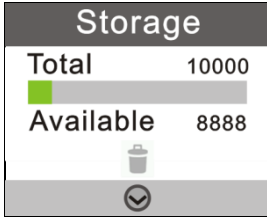

Fig 3.13 Storage Capacity
- Press <  **Right** > key to check the storage capacity of the detector, as shown in Figure 3.13;